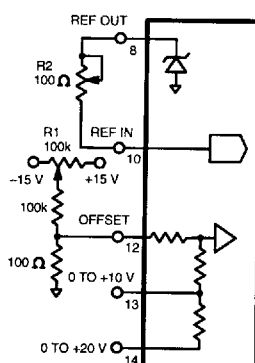

Figure 3.
**Unipolar Mode:** Connect MP574A as shown in *Figure 3.* R1 is used to adjust the converter offset so that an input voltage equivalent to 1/2 LSB will produce the first change in the output codes (0000 0000 0000 to 0000 0000 0001). This input is 1.22 mV for the 10 V scale (pin 13) or 2.44 mV for the 20 V scale (pin 14). Using one of these inputs, R1 should be adjusted until the output flickers between the above code values.